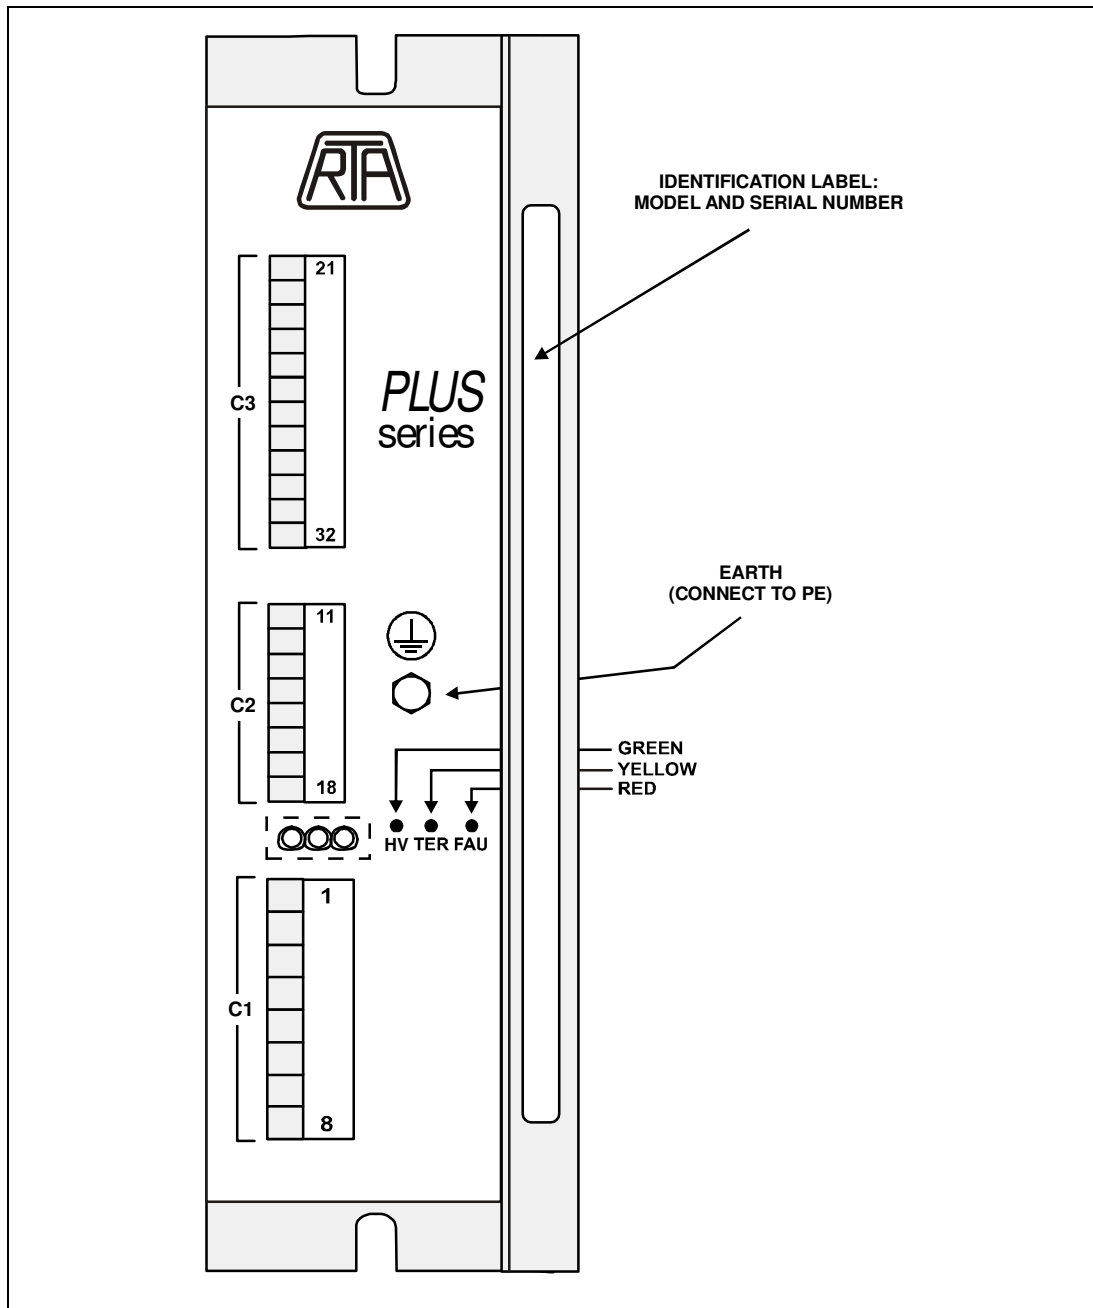

Fig. 6 – Alert led and connectors.
- 6.2- Fig. 6 shows the position of alert LED, connectors and labels on the case.